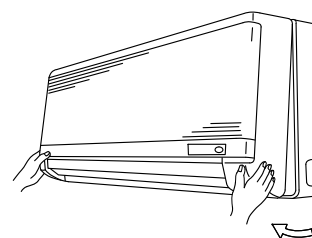

Fig. 3-55
- (6) Remove the grille. (Fig. 3-55)